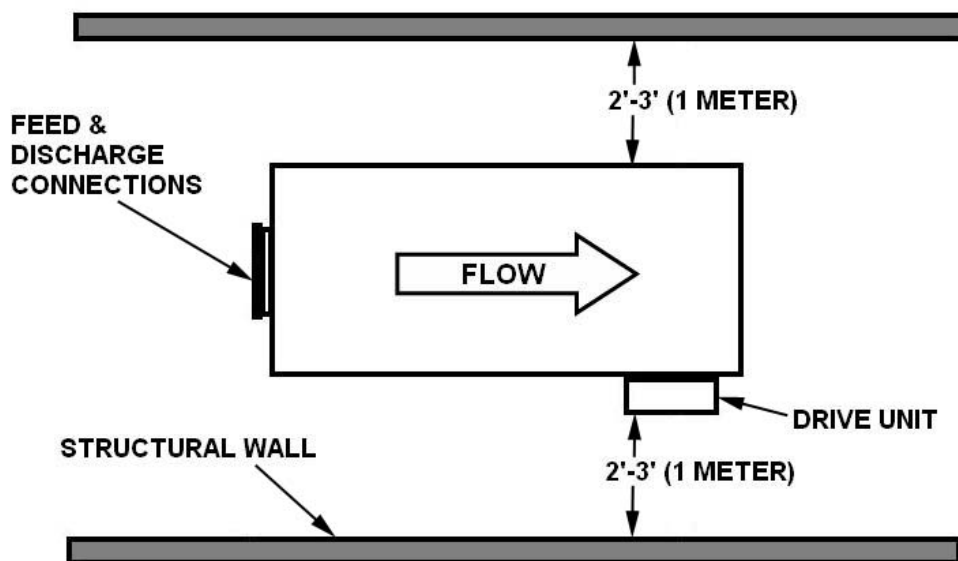

Figure 3-1 Flo-Line Primer Clearances
1. Confirm adequate clearance for changing screen belt. Figure 3-1 shows minimum required clearances on all sides of machine(s). If operating cartridge will be removed, allow at least 9' (2743mm) in front of discharge end to accept the separated cartridge following removal.